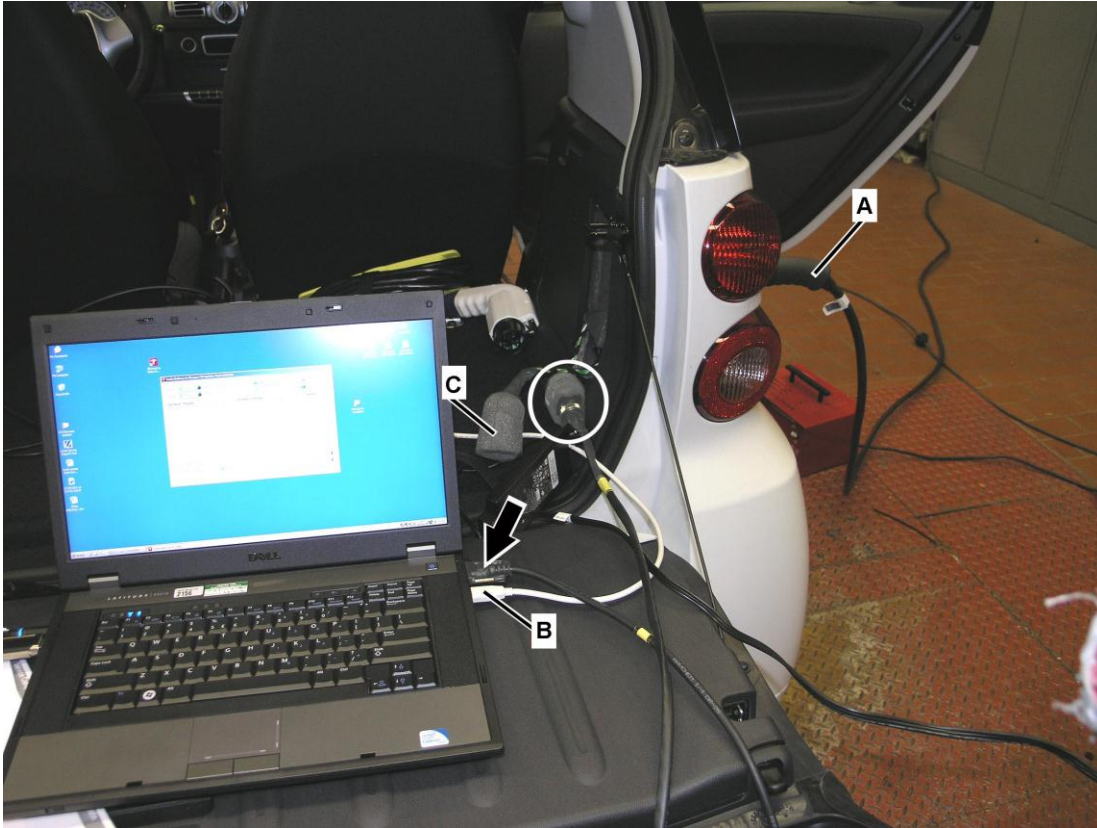

Figure 8
Connect serial connector (arrow, Figure 8) of traction drive diagnostic cable (20-040-0551) to serial port on laptop then connect the round pinned connector end of the traction drive diagnostic cable to the vehicle's 6 pin EV diagnostic socket (circled).
3.1. Start Zytec diagnosis computer (if not already connected), connect the round pinned connector end of the diagnostic cable (2 0-040-0551) to vehicle's 6-pin EV diagnostic socket (circled, Figure 8).
- The serial port connector of diagnostic cable 2 0-040-0551 should be already connected to serial port of laptop (refer to Figure 8).
- Connect traction drive diagnostic cable (2 0-040-0551) to vehicle's **9**-pin diagnostic socket (refer to Figure 8).
- Connect serial port connector of diagnostic cable (2 0-040-0551) to serial port of laptop (refer to Figure 8).
3.17. Connect traction drive diagnostic cable (2 0-040-0551) to vehicle's **6**-pin diagnostic socket (Refer to Figure 8).
The other serial port connector of diagnostic cable 2 0-040-0551 should be already connected to serial port of laptop (refer to Figure 8)